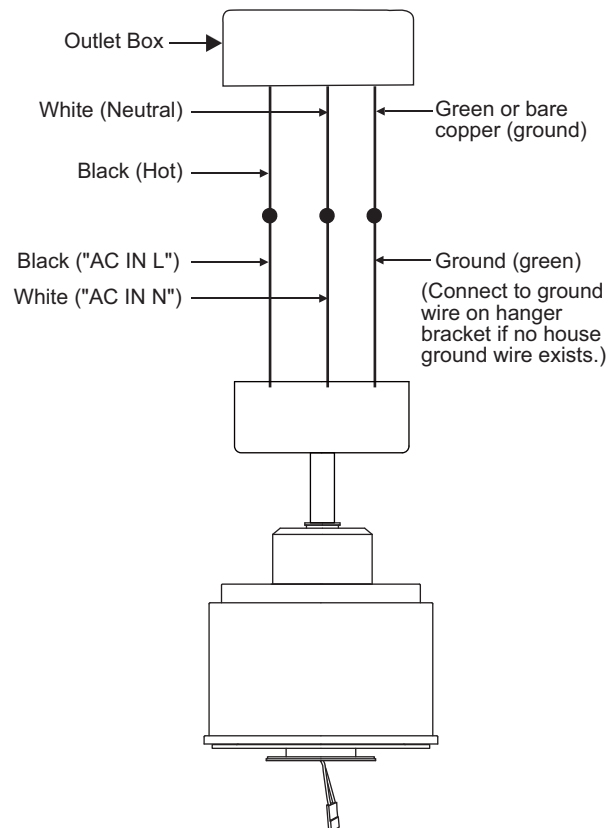

Figure 10
**Step 1.** Motor to House Supply Wires Electrical Connections: Connect the WHITE wire (Neutral) from the outlet box to the WHITE wire marked "AC in N" from the motor. (Fig. 10)
**Step 2.** Connect the BLACK wire (Hot) from the outlet box to the BLACK wire marked "AC in L" from the motor. (Fig. 10)
**Step 3.** (Figure 10) If your outlet box has a ground wire (green or bare copper) connect it to the fan ground wires; otherwise connect the hanging bracket ground wire to the mounting bracket. Secure the wire connection with a plastic nut provided. After connecting the wires, spread them apart so that the green and white wires are on one side of the outlet box and black and blue wires are on the other side. Carefully tuck the wire connections up into the outlet box.